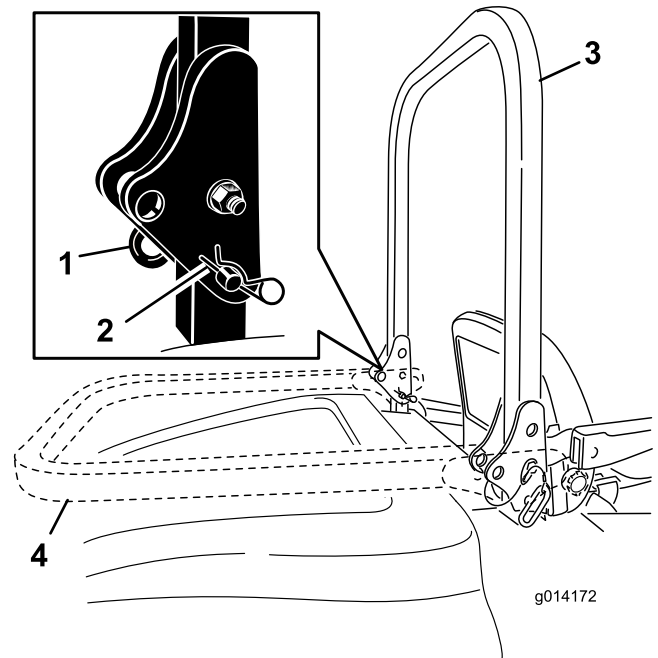

Figure 12
1. To lower the roll bar, remove the hairpin cottes, push the roll bar forward against the springs, and remove the two pins (Figure 12).
2. Lower the roll bar to the down position (Figure 12).
3. Install the two pins and secure them with the hairpin cotter pins (Figure 12).
4. To raise the roll bar, remove the hairpin cotter pins and remove the two pins (Figure 12).
5. Raise the roll bar to the upright position and install the two pins and secure them with the hairpin cotter pins (Figure 12).